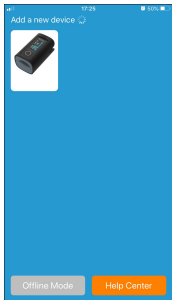

Figure 8
3. Click the device icon when ViHealth finds your Pulse Oximeter (see figure 8).